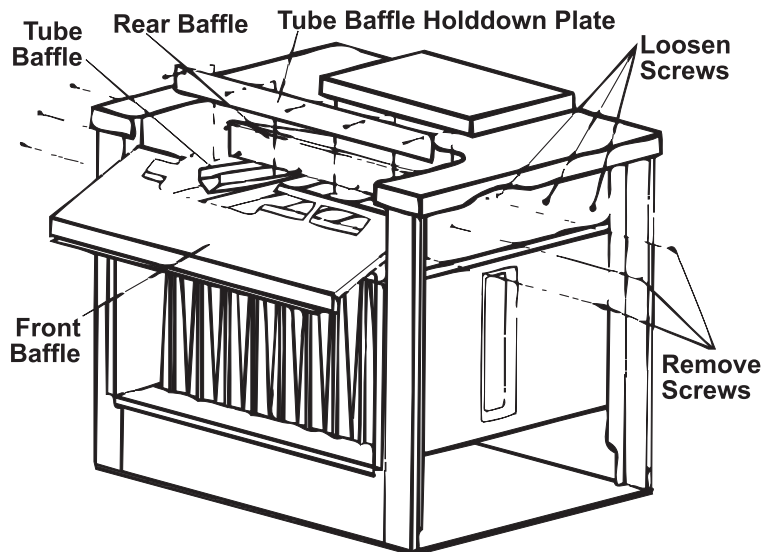

Figure 22. Heat Exchanger V-Baffles Removal
- b. Remove heat exchanger V-baffles (see Figure 22):
- (1) Remove ends of flue gas collection box.
- (2) On control side of furnace, remove venter assembly and flue outlet duct to gain access to collection box end.
- (3) For model RP unit sizes 125–300, remove screw that secures one tube baffle retaining angle on each inside wall of collection box and remove angle.
- (4) For model RP unit size 400, remove inner baffle from flue collection box: on control side, align inner baffle with slot in collection box edge and pull inner baffle until it clears heat exchanger. Remove screw at each end and slide flue diverter out of furnace.
- (5) Pull V-baffles out of heat exchanger.